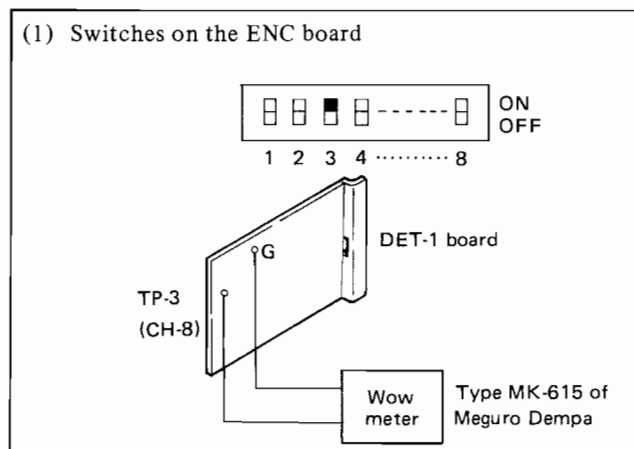

Fig. 5-30
1. Load the tape whose contents have been erased, set only the bit switch (3) on the ENC board to ON (2 blocks), and run the tape in the recording mode for 10 minutes. (Refer to Fig. 5-30.)